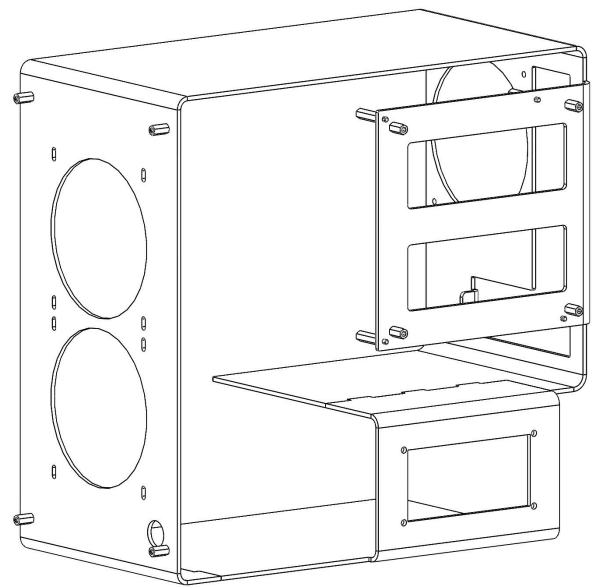

fig. 2
5. Screw four of the 1/2" standoffs into the front of the chassis, and the other four into the back of the motherboard flange (fig. 2). Screw the thread caps onto the exposed threads of the front panel and motherboard standoffs.